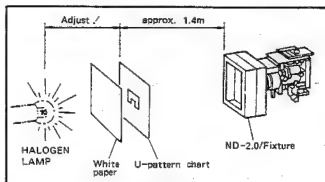

Fig. II-60
- (1) Open the iris. (TP2201 → TP2652)
- (2) Attach the ND-2.0 filter on the front face of lens with the fixture. (supplement for AIE,F's Service Manual)
- (3) Prepare a U-pattern chart with a white paper attached on its rear side.
- (4) Make setting as shown in the Fig. II-60.
- (5) Shoot the U-pattern chart with up side down. (Standard angle of view)
- (6) Locate the halogen lamp so that the signal level at TP2202 becomes 300 mVp-p ("A" in the figure).